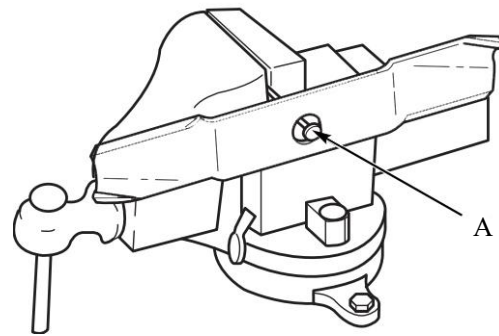

Fig.14
- Refer to Fig. 14. Put the mower blade on a nail (A) in a vise and turn the mower blade to the horizontal position.